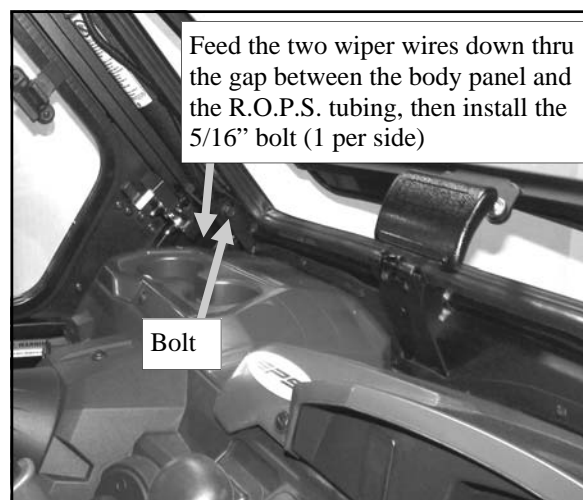

Fig. 8.5 (Inside view of driver's side)
8.5 Per fig. 8.5, pass the ends of the wiper wires down thru the gap around the R.O.P.S. tubing so that a harness connection may be made in a later step underneath the fender area.
8.6 See fig. 8.5. Use the following hardware into the lower threaded inserts (one bolt per side):